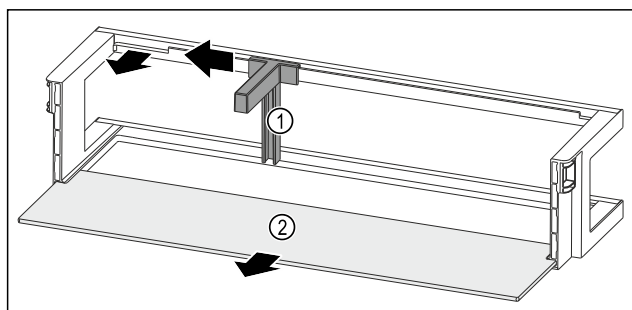

Fig. 149 Door rack with bottle holder and shelf
- Slide the bottle holder Fig. 149 (1) to the side as far as the recess.
- Remove the bottle holder Fig. 149 (1).
- Remove the shelf Fig. 149 (2).